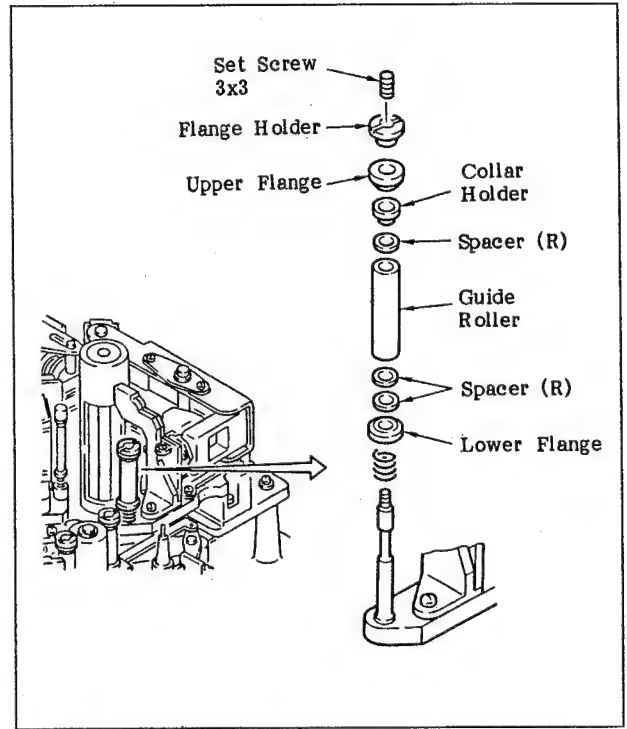

Fig. 6-123 Replacement of the T6 Guide Roller
1. Remove the guide roller by rotating the flange holder and replace the guide roller with a new one. (Figure 6-123)
3. If it is not satisfied, adjust it by changing the number of spacers (R) (Sony Part No. 3-715-809-11), shown in Figure 6-123.